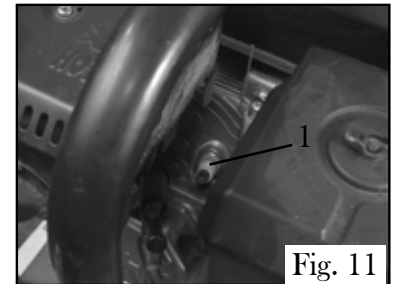

Fig. 11
2. Unscrew the spark plug from the plate compactor using the spark plug wrench included with this product. (Fig. 11 - 1).